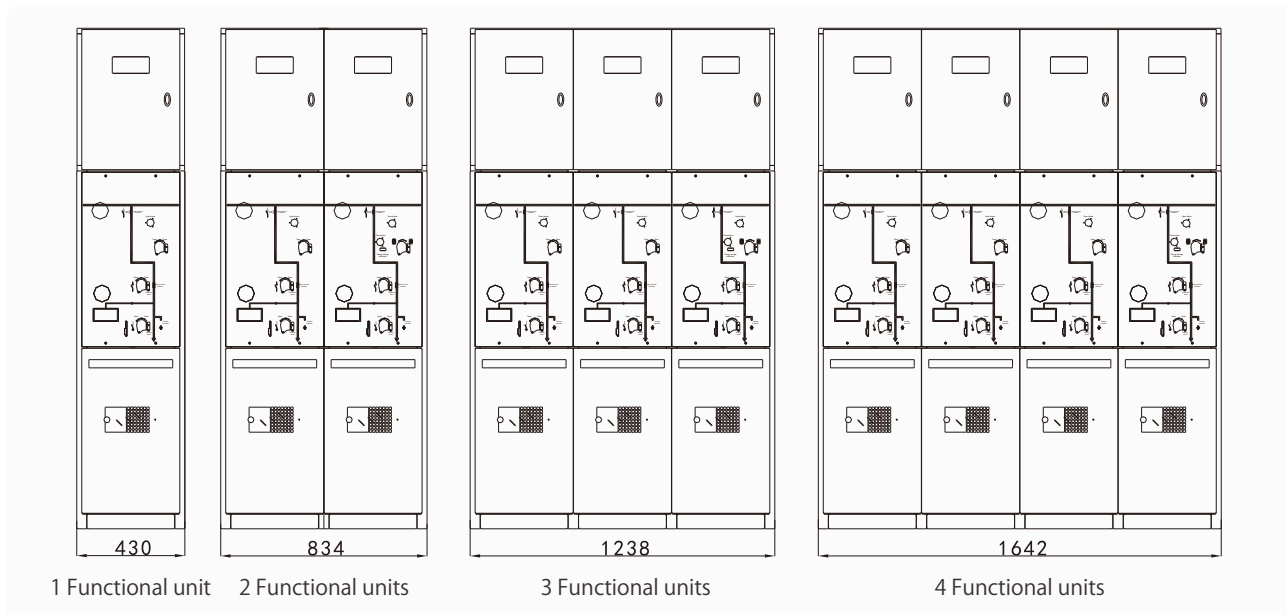

Figure 4-1 Non-extended type
4.1.1 Non-extended type (see Figure 4-1)